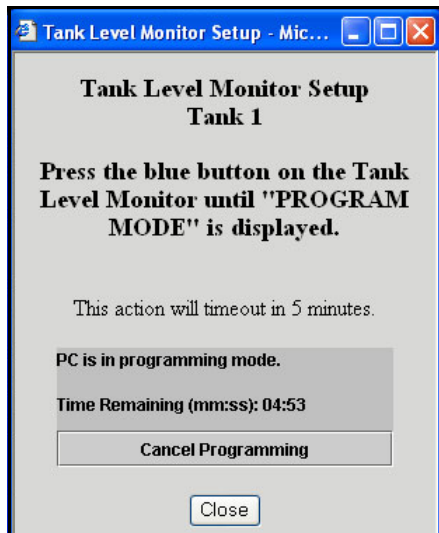

FIG. 81 Tank Level Monitor Setup
1. In the Action column of the tank record you want to program, click **Program**. The Tank Level Monitor setup timeout notice appears (FIG. 81).